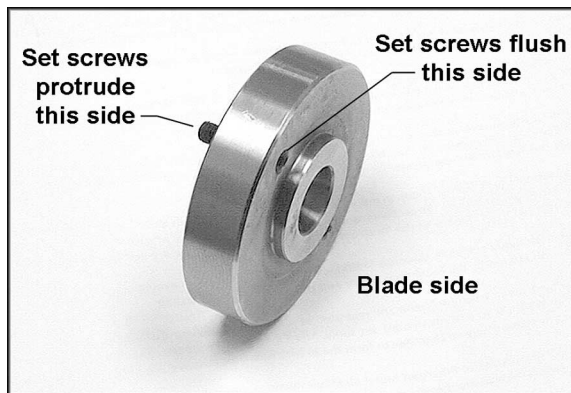

Figure 16
6. Make sure the set screws in the adaptor are set flush on the blade side. (They should protrude to the rear to engage the arbor for positive drive). See Figure 16. Clean the mating surfaces, install new blade, and tighten arbor nut securely.